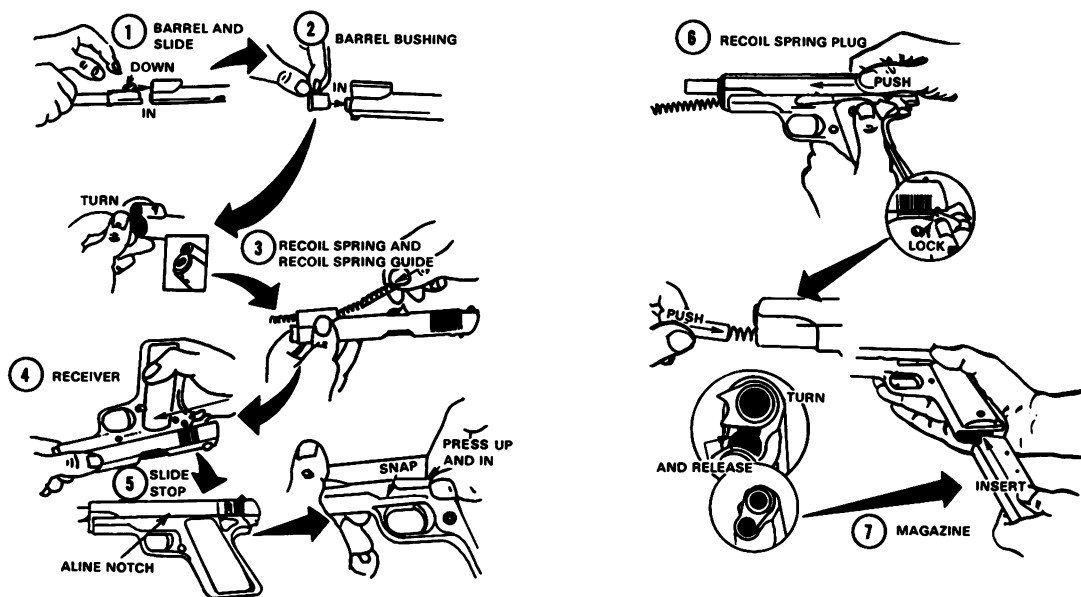

Figure 2.
(1) Lubricating oil, general purpose, PL Special, is a thin oil used for lubricating above 0°F and for providing temporary protection against rust.
(2) Engine oil, SAE 10, may be used when lubricating and preservative oil cannot be obtained. When engine oil is used, the weapon must be inspected, cleaned, and oiled frequently.
(3) LAW weapons lubricating oil is to be used at temperatures below 0°F.
5. **Assembly** (figure 2). When testing the caliber .45 pistol for correct assembly depress the safety lock, pull the slide fully to the rear, and release it by pushing down on the slide stop. The hammer should remain cocked.